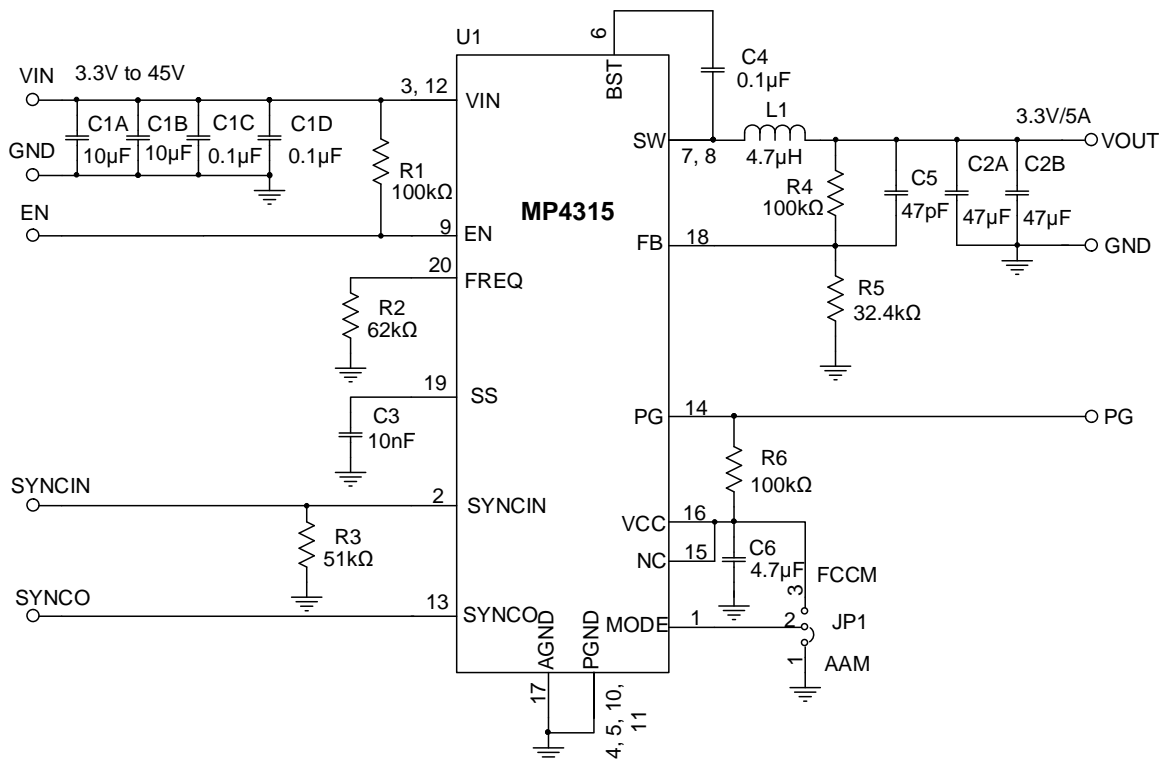

Figure 10: Typical Application Circuit ($V_{OUT} = 3.3V$, $f_{sw} = 470kHz$)
- 10) The recommended PCB layout is based on Figure 10 on page 31.